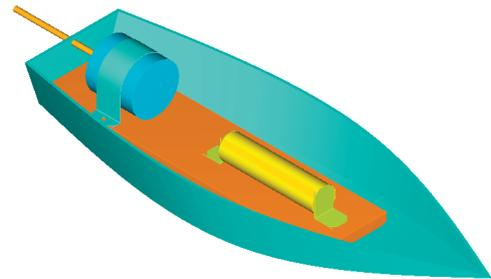

Fig. 40
Step 5. Click your Motor Mount file and click Open, **Fig. 40**.